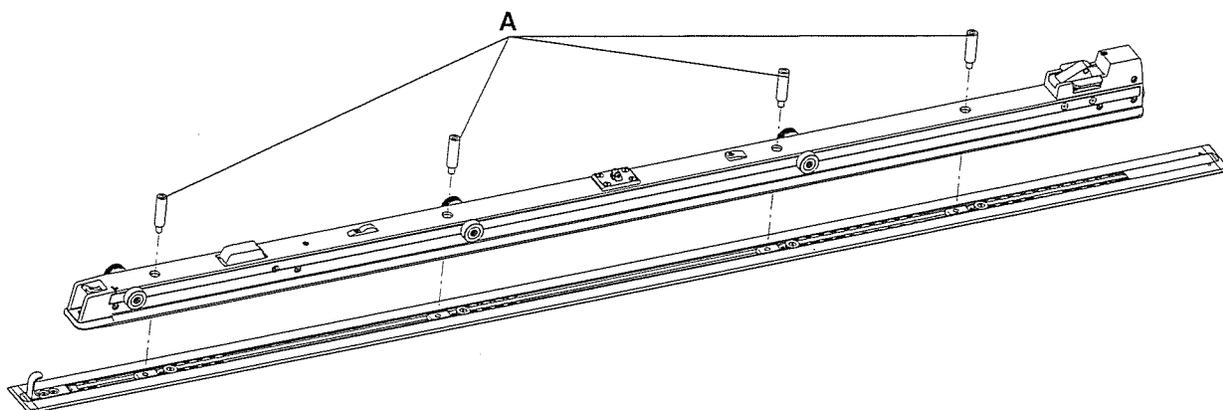

Figure 9: Install anchor mounting posts
12. Using a 3/8" hex wrench, install the four supplied anchor mounting posts (6390-001-150) (A) into the four holes in the anchor assembly (Figure 9 on page 20).